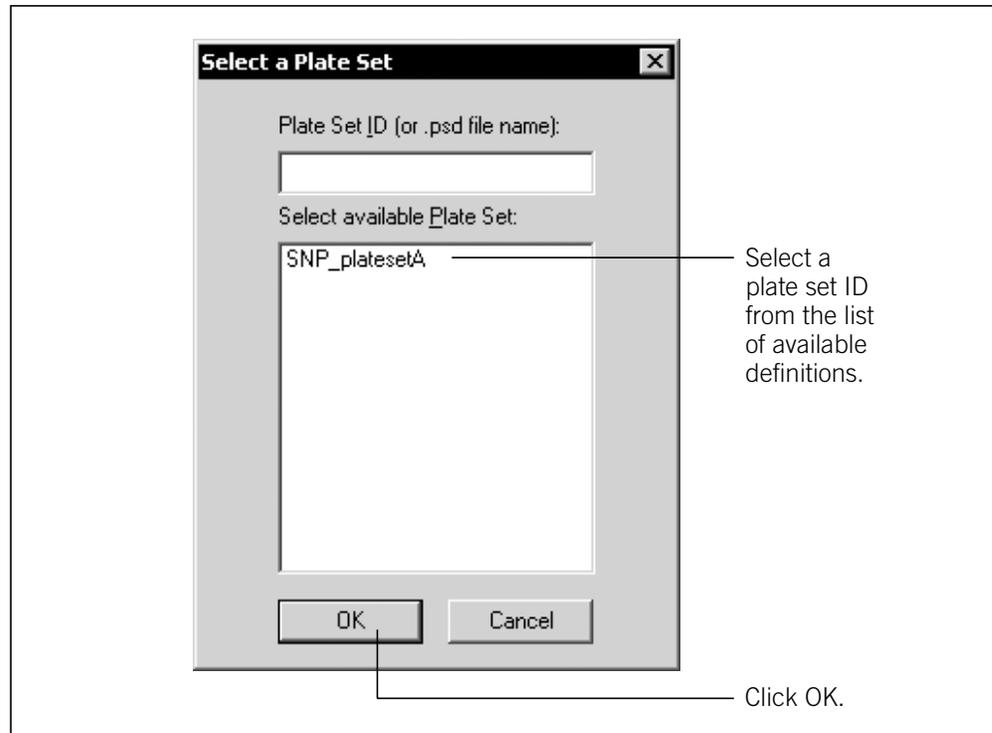

Figure 15-10. Choosing an available or previously defined plate set ID in the Select a Plate Set window.
1. In the Instrument Control window, with the **Inject Samples and Run** protocol selected, click **Start**. The Select a Plate Set window appears (figure 15-10).